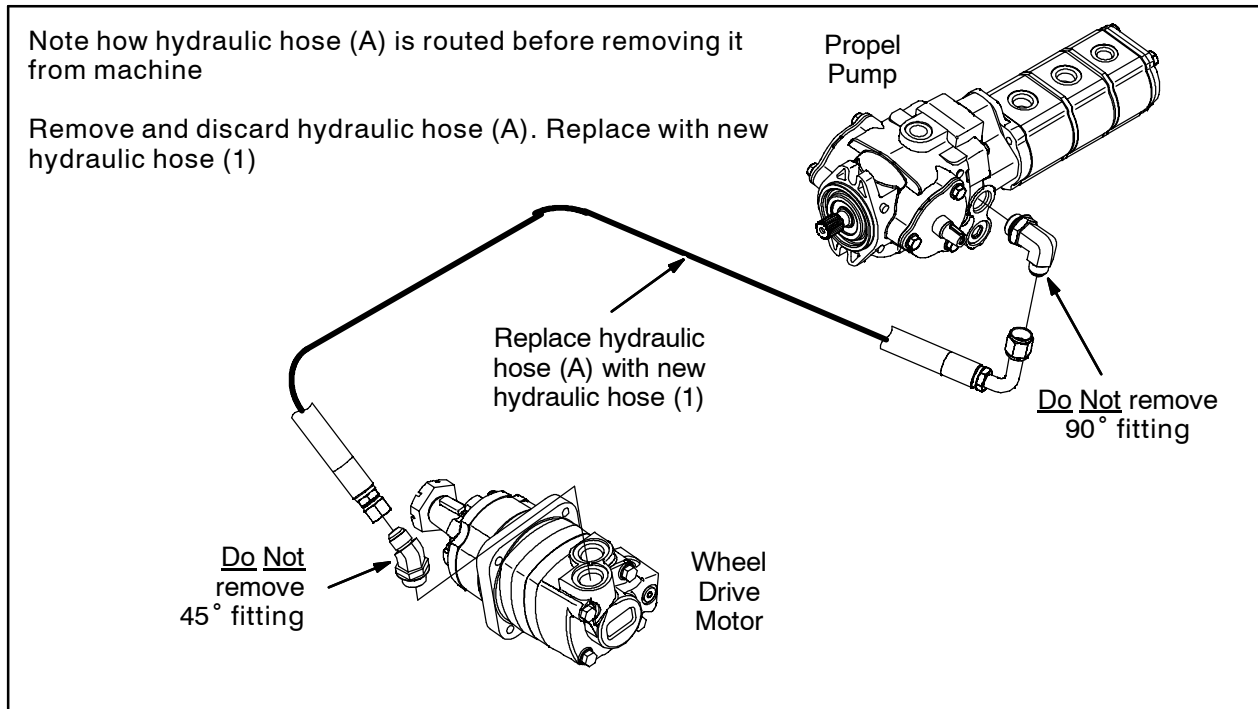
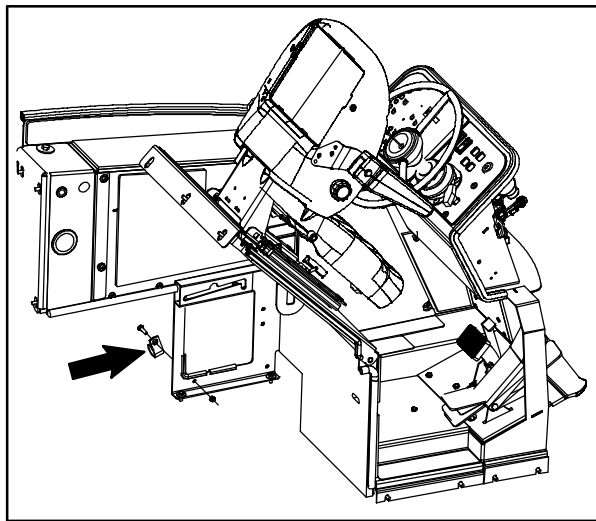
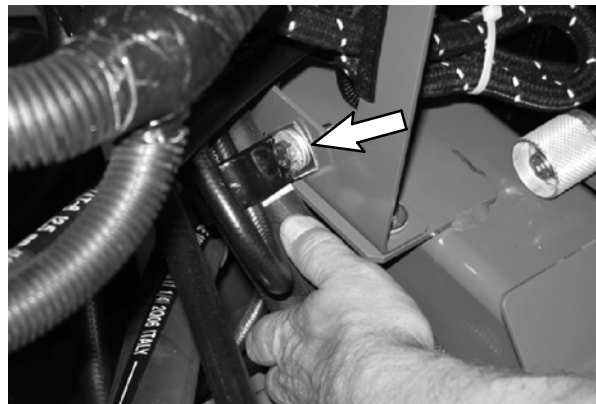

FIG. 6
FIG. 1
FIG. 2
7. Cut the ends from the cable ties (2).
8. Route the hydraulic hose (1) the rest of the way to the hose clamp. Refer to Fig. 2 and Fig. 6.
10. Route the hydraulic hose (1) from the hose clamp to the propel pump. Refer to Fig. 6.
11. **Loosely** thread the 90° fitting on the hydraulic hose (1) onto the 90° fitting where hydraulic hose (A) was located on the propel pump. Refer to Fig. 6.
13. Tighten the hydraulic hose (1) onto the fitting on the wheel drive motor. Refer to Fig. 6.
14. Tighten 90° fitting on the hydraulic hose (1) onto the 90° fitting on the propel pump. Refer to Fig. 6.
17. Start and test the machine. Observe the newly installed hose (1) for leaks.
1. Locate hydraulic hose (A) connected to the propel pump and wheel drive motor. Note where/how hydraulic hose (A) is routed. The new hydraulic hose (1) must be routed the same as hydraulic hose (A). Refer to Fig. 6.
2. Loosen the hose clamp and remove hydraulic hose (A) from the clamp. Refer to Fig. 1, Fig. 2, and Fig. 6.
3. Reinstall the hose clamp. Be sure the markings on the remaining hoses remain positioned as shown in Fig. 2.
7. Cut the ends from the cable ties (3).
8. Route the hydraulic hose (1) the rest of the way to the hose clamp. Refer to Fig. 1 and Fig. 2.